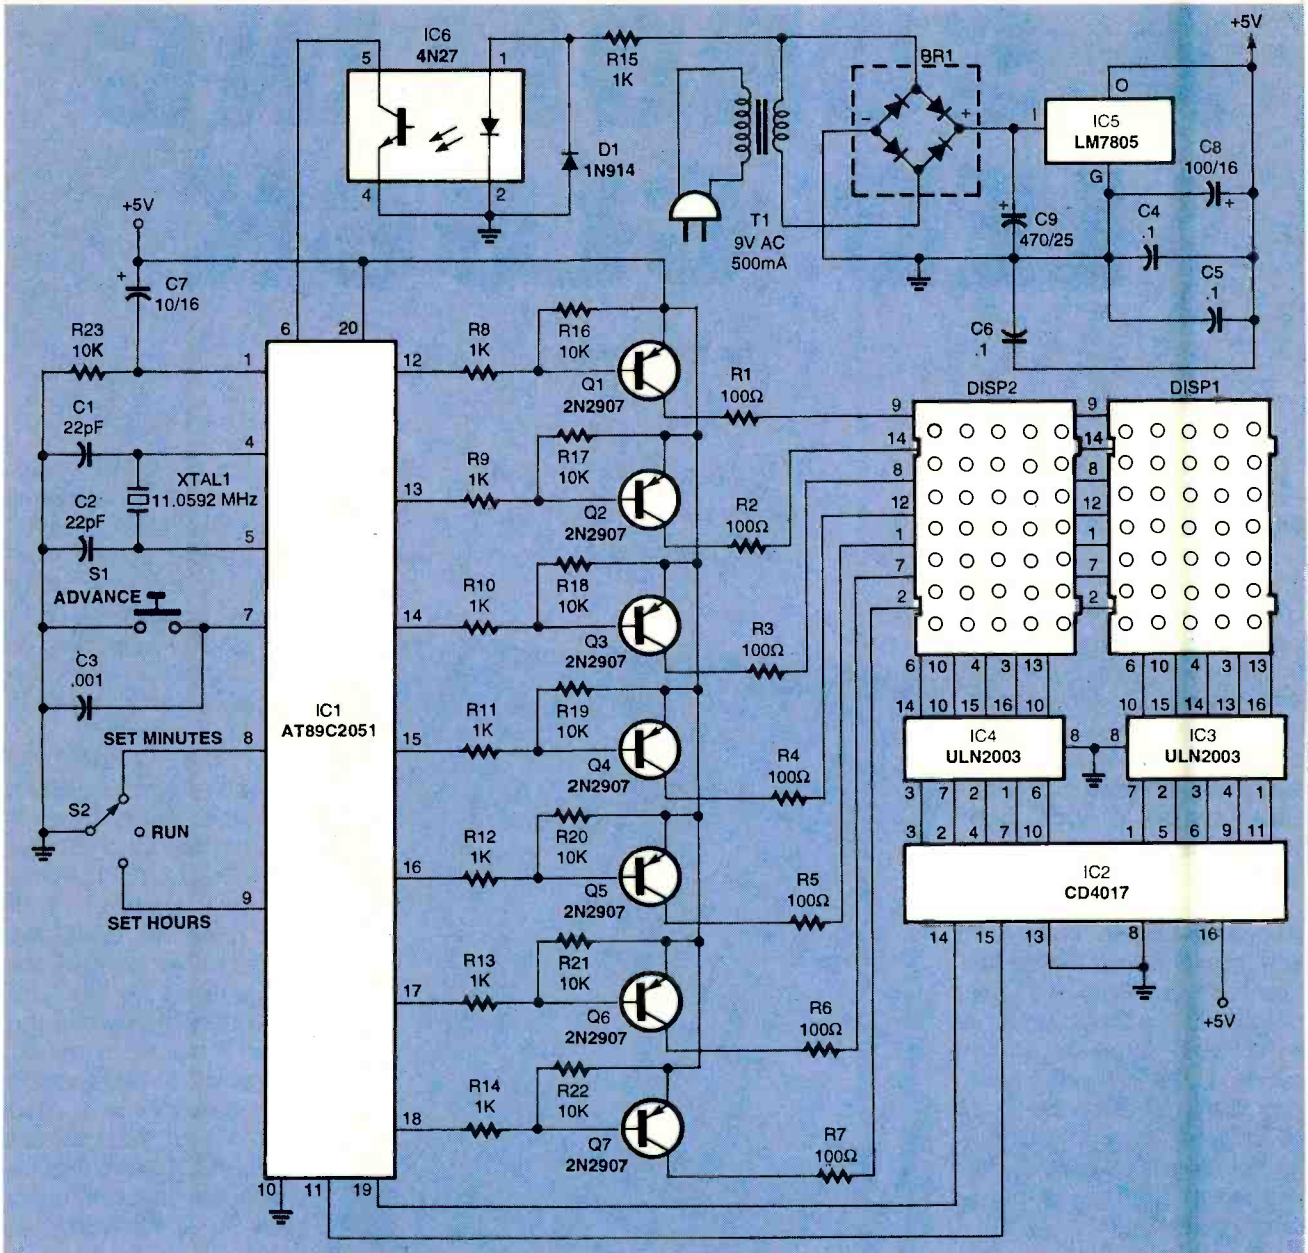

Fig. 1. The Scrolling Clock is built around a microcontroller that displays the time like a scrolling marquee.
**About the Circuit.** As you can see from the schematic diagram shown in Fig. 1, the heart of the Scrolling Clock is IC1, an AT89C2051 microcontroller made by Atmel. It is programmed to handle a variety of functions, including display multiplexing, timekeeping, dot-pattern encoding, scrolling, and time setting.